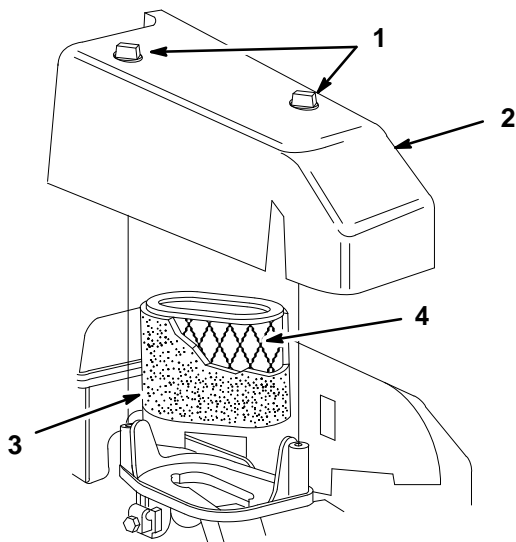

Figure 15
2. Loosen two (2) knobs securing air cleaner cover to engine (Fig. 15).